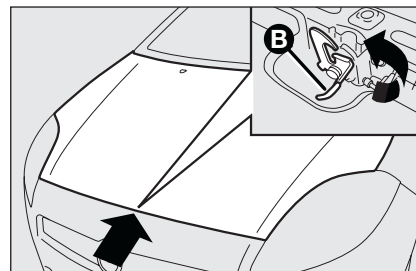

fig. 97
- pull lever **B**-fig. 97 and raise the bonnet.